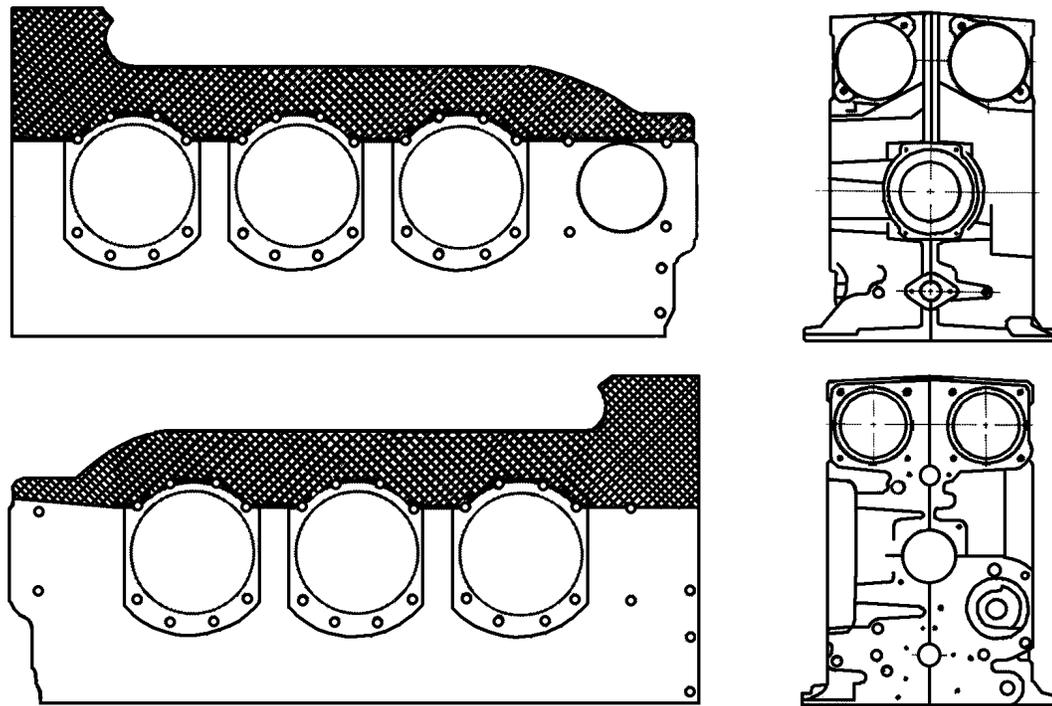

Figure 20-3
Critical (white) and noncritical (shaded) areas are illustrated in Figure 20-3. If a crack is observed in any of the noncritical (shaded) areas that is less than two (2) inches in length, the crack should be scribe-marked at its extremities and reinspected for crack progression at the next 50 hours of operation. If no progression is observed and no additional cracks are found, continue to inspect at regular intervals not to exceed 100 hours of operation.
Weld repairs must not be performed in the critical (clear) areas of the crankcase as shown in Figure 20-3.